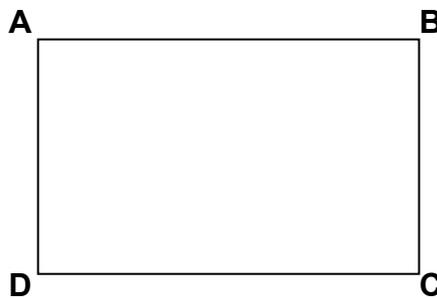

Figure 1
1. Draw a scale map of the rectangle ABCD which contains the mines (see Figure 1). It has been marked out on the ground for you. You are located on side CD and need to cross with the refugees to side AB. Begin by measuring the side CD. Your army has told you that AD and BC are $\frac{2}{3}$ rd the length of CD. On your grid paper, **draw the rectangle using a scale of 1:100** (i.e. 1 cm to 1 metre). Mark the scale on your map. Assume the line from D to A points North. **Draw an arrow on your grid paper indicating the direction of North.**